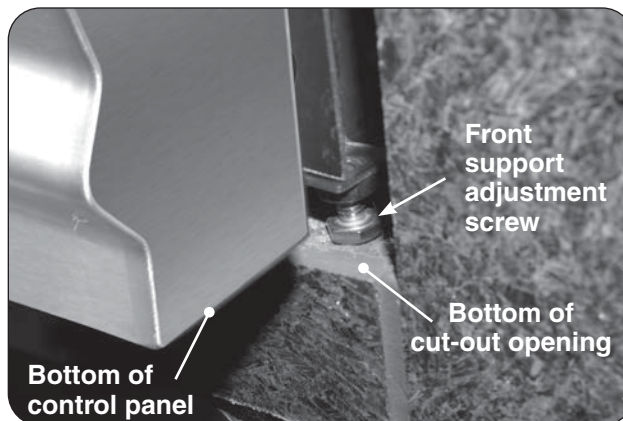

Fig. 18-3 Front support adjustment screws
2. Rotate the front support adjustment screws to the left to raise and to the right to lower the respective side of the appliance. Use a $\frac{7}{16}$ " open-end wrench as needed. See Fig. 18-3.